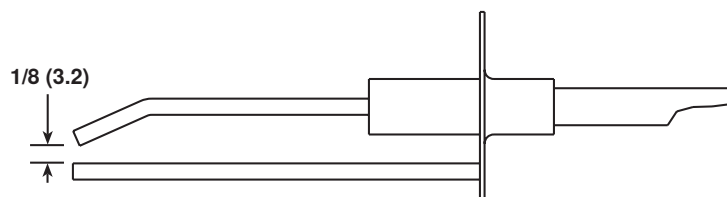

Figure 32. Ignitor Spark Gap
- The spark gap (see Figure 32) must be maintained to 1/8 inch.